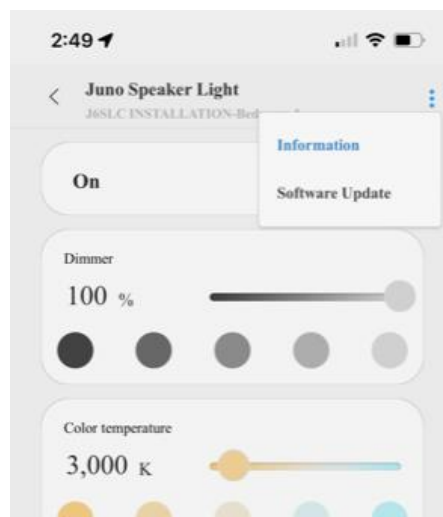

Figure 9
3. Select "Software Update" in the drop-down menu. (Figure 9)